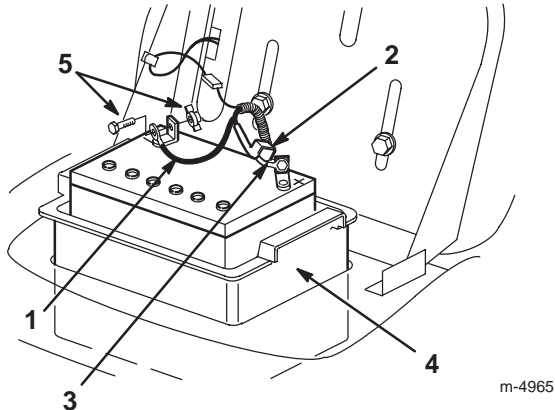

Figure 18
6. Disconnect the negative (black) ground cable from the battery post (Fig. 18).
7. Slide the rubber cover up the positive (red) cable. Disconnect the positive (red) cable from the battery post (Fig. 18).
8. Remove the battery box and battery from the chassis (Fig. 18).
1. Put the battery into the battery box and install it into the chassis (Fig. 18).
2. Using the bolt and wing nut, connect the positive (red) cable to the positive (+) battery post (Fig. 18).
4. Using the bolt and the wing nut, connect the negative (black) cable to the negative (-) battery post (Fig. 18).